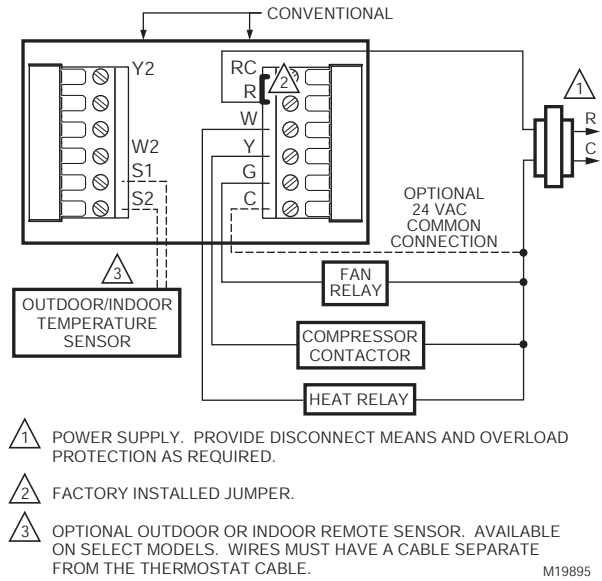

Fig. 9. Typical hookup of conventional single-stage heat and cool system with single transformer (1H/1C conventional).
WIRING (FIG. 9 - 21)
- See Fig. 9 through 21 for typical wiring hookups.